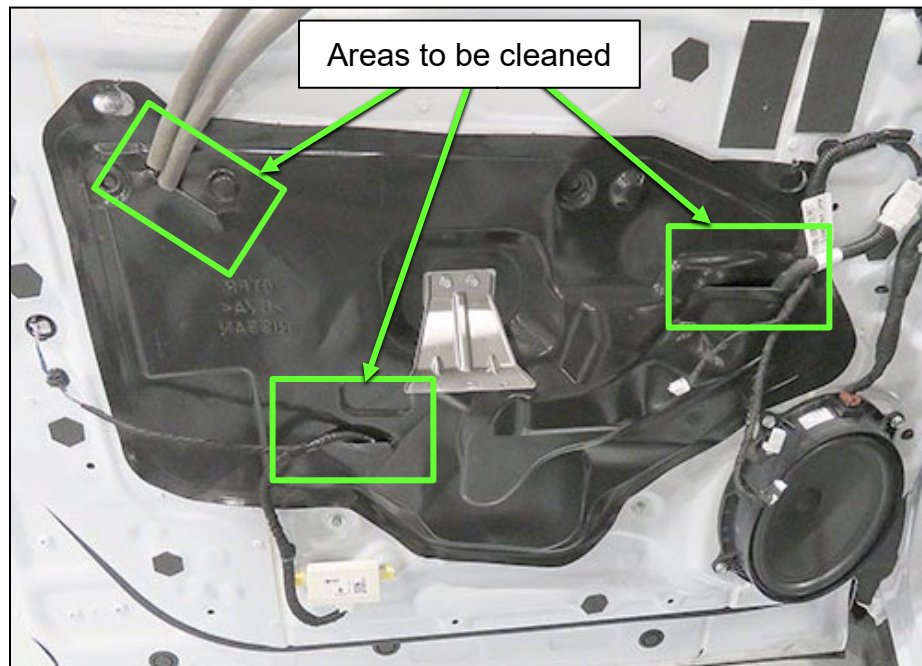

Figure 21
29. Use 80-220 grit sandpaper to scuff the three (3) areas shown in Figure 21.
30. Clean the door seal surface in the three (3) areas shown in Figure 21 with alcohol.